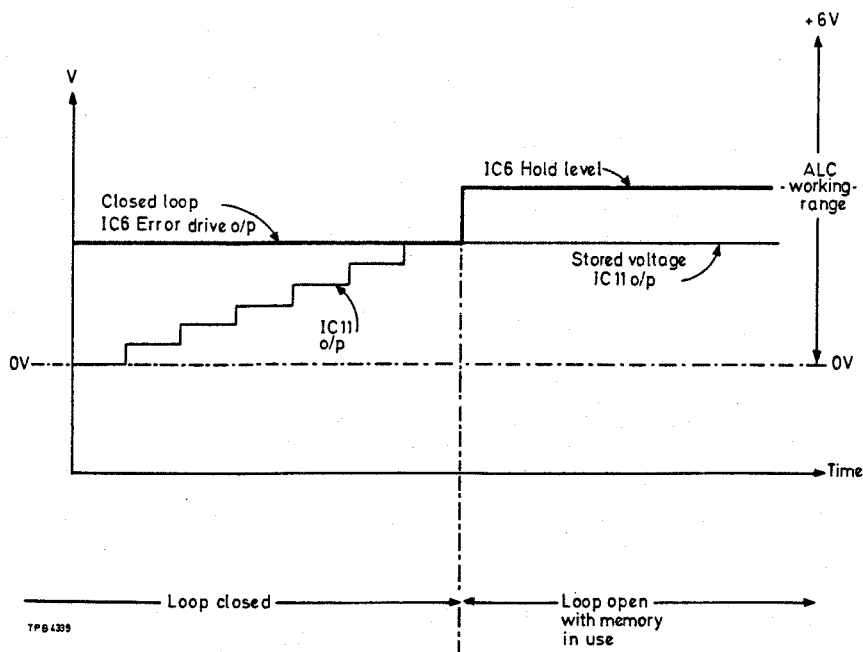

Fig. 9 ALC clamp operation (AB2)
48. If either the Pulse Modulation or VOR/ILS a.m. modes of operation are in use the ALC loop is open circuited to avoid interfering with these types of modulation. The error drive voltage is then derived from a digital store via a D-A converter instead of the normal closed loop source. To prevent the opened ALC loop drifting to its limits it is held in the centre of its working range by a clamp circuit as shown in Fig. 9 below. If a significant change is made in the generator operating frequency an ALC update sequence operates to correct the stored voltage.
50. When this occurs IC5b2 output sets the bistable (TR44 is turned on), preventing further oscillation from TR47/TR48. Switch IC3b2 operates via TR45 collector and pins 8 and 9 are disconnected to open the loop, also pins 10 and 11 are connected to couple the stored voltage to the error drive line and from there to board AA21. Switch IC7a3 is also operated via D19, pins 1-2 are connected together to clamp the input and output of comparator IC8. This holds the output of IC8 in the centre of the ALC working range throughout the time that the loop is in the open condition. Figs. 9 and 10 show this operation.